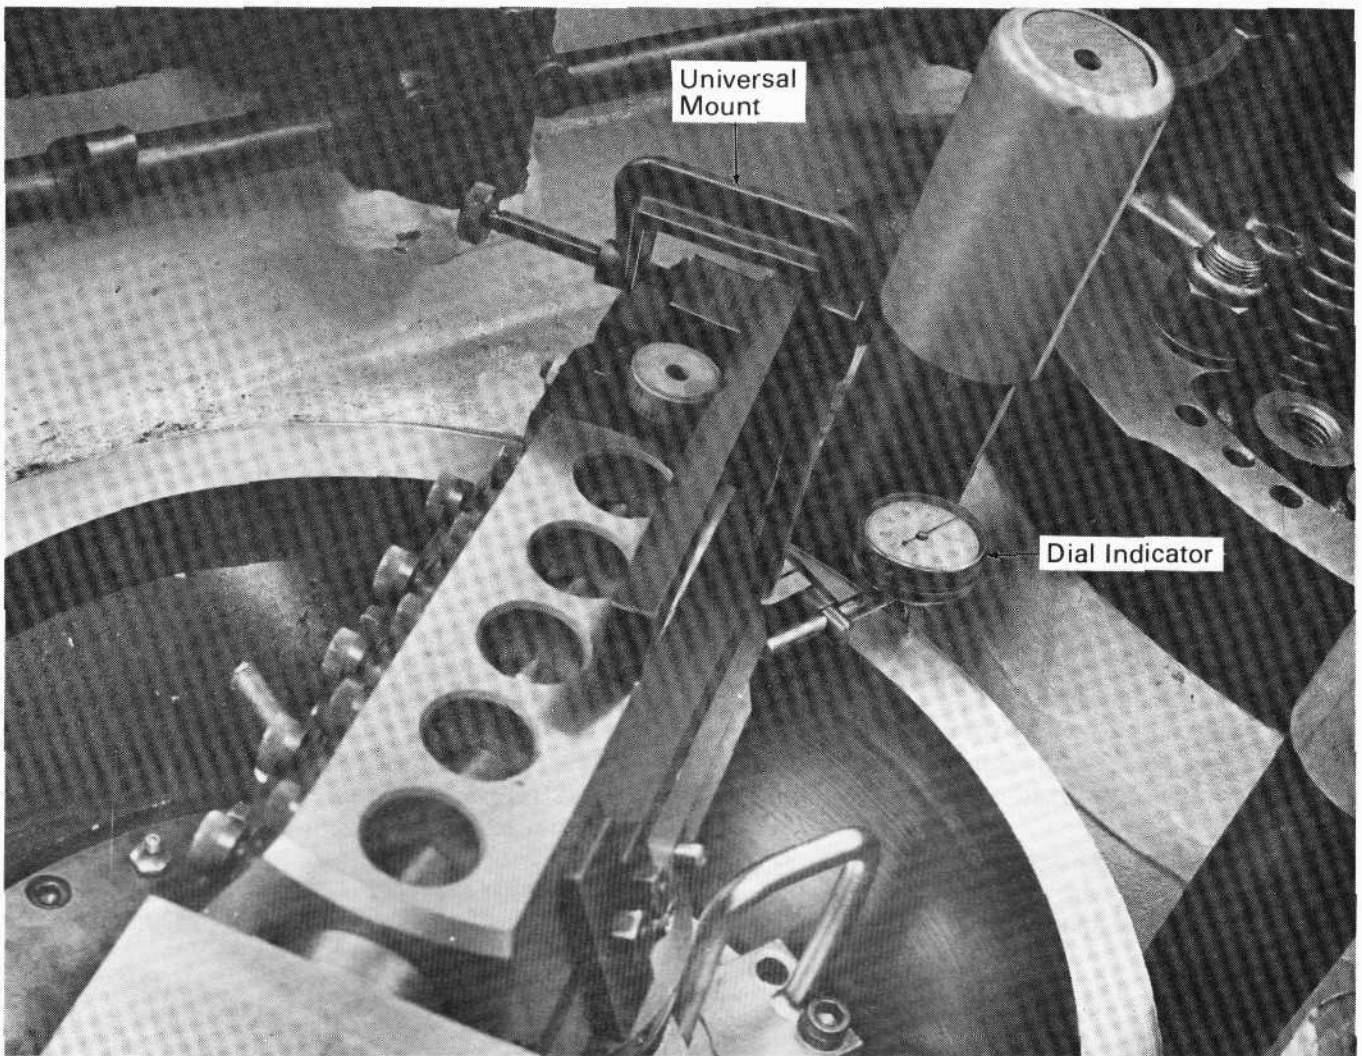

Fig.16 – Checking Cutting Head Runnout
7. Check cutting head runnout using a dial indicator mounted to the cutting head. Mount indicator so that dial indicator button contacts the unworn portion of the head retainer, Fig. 16. Rotate cutting head by hand, noting dial indicator reading. Maximum allowable runnout is .005" TIR.